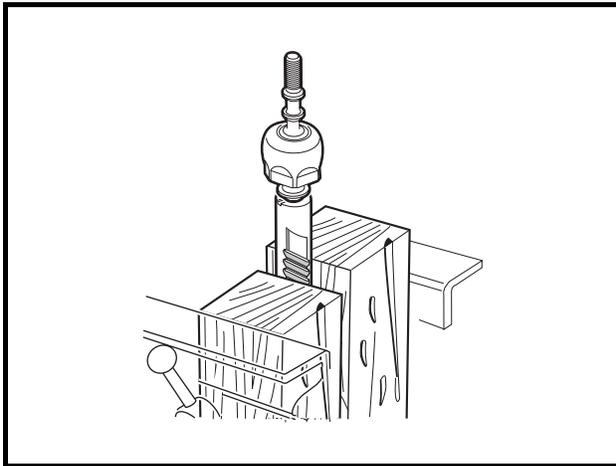

Figure 7-14 Secure Racks
- 13.1. Secure the rack and housing assembly in a vise (**Figure 7-14, Page 7-7**). **See following CAUTION.**